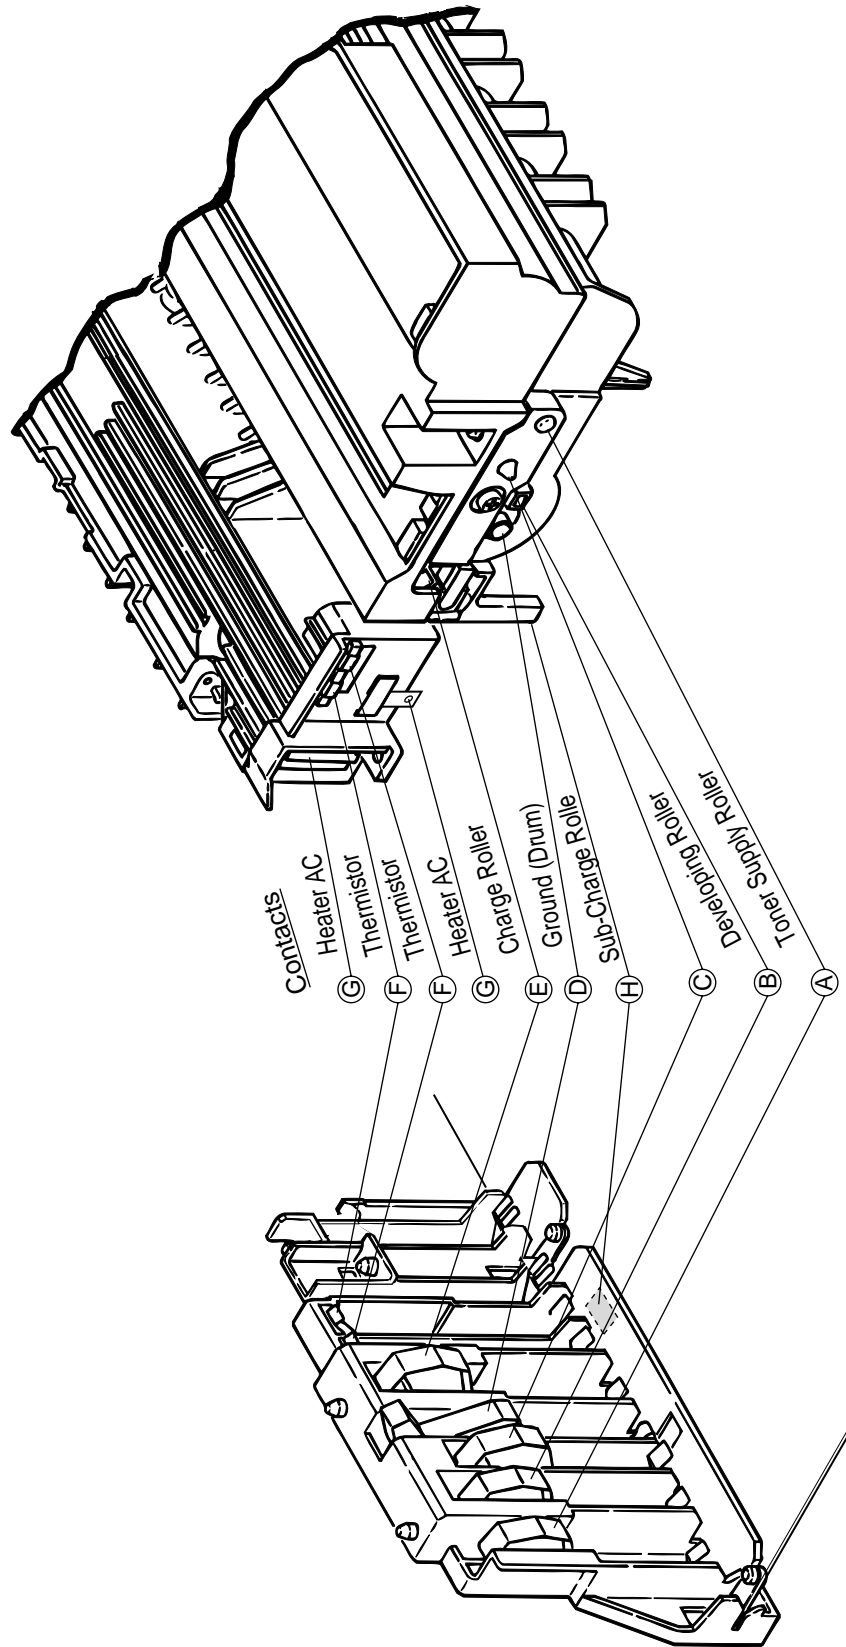

Figure 6-4
• Yes Check the heat contacts of the fusing unit and the contact assembly for poor contact (see Figure 6-4 contact ③).
• Yes Are the contact of the developing roller and the contact of the toner supply roller of the image drum cartridge in contact with the contact assembly properly (see Figure 6-4 (A) and (B))?